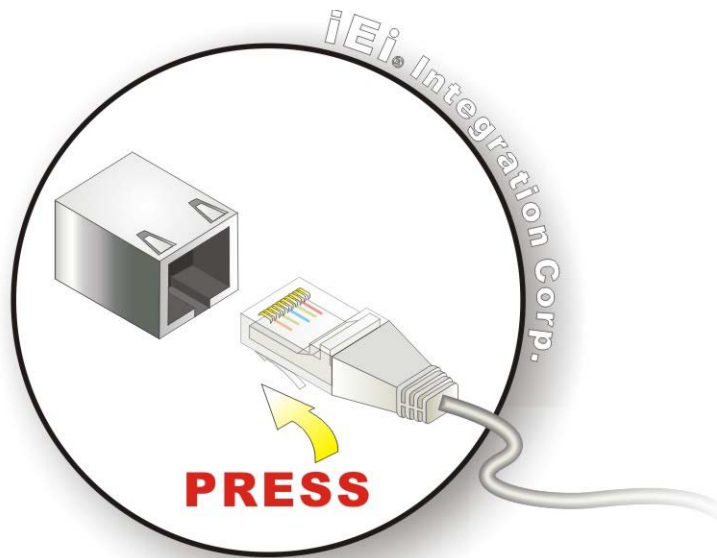

Figure 4-22: LAN Connection
Step 2: Align the connectors. Align the RJ-45 connector on the LAN cable with one of the RJ-45 connectors on the KINO-AA750-i2. See **Figure 4-22**.